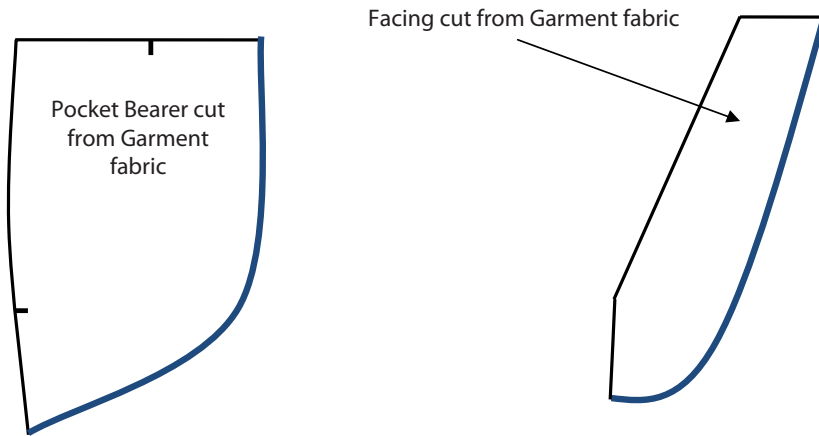

Figure 15
1. Use the Three Thread Overedge stitch (504) to neaten the curved bottom edge (shown in Figure 15) of the bearer and the facing.